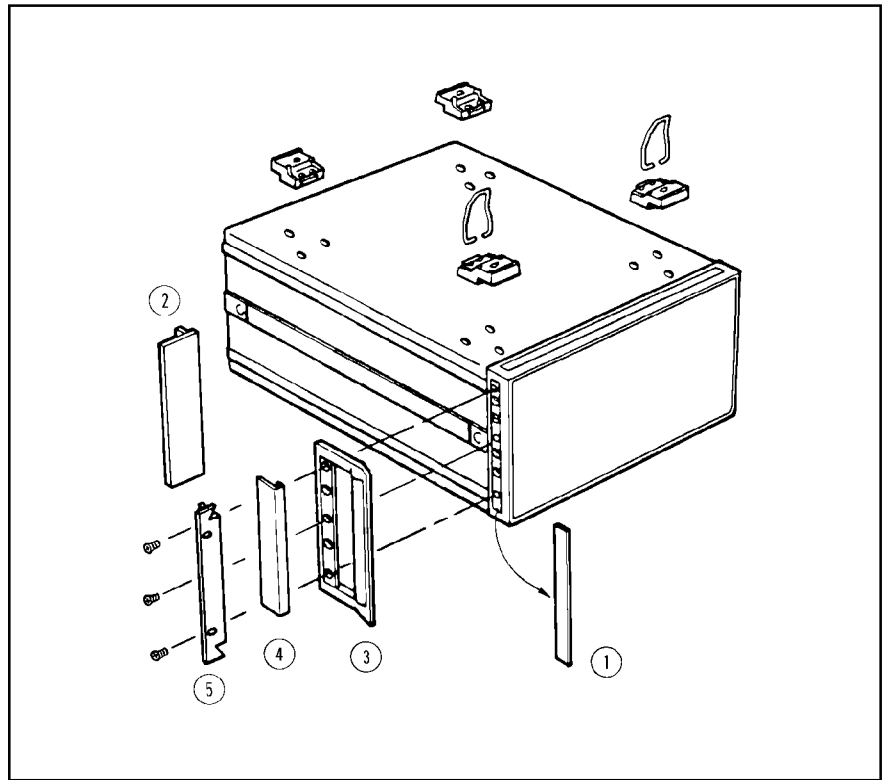

Figure 1-3. Rack Mount Kits Installation
The analyzer can be rack mounted and used as a component in a measurement system. Figure 1-3 shows how to rack mount the 4279A.
1. Remove the adhesive-backed trim strips ① from the left and right front sides of the 4279A. (Refer to Figure 1-3.)
2. Attach the front handles ② to the sides using the screws provided.
3. Attach the trim strips ③ to the handles.
2. Attach the rack mount flange ④ to the left and right front sides of the 4279A using the screws provided.
3. Remove all four feet ⑤ (lift bar on the inner side of the foot, and slide the foot toward the bar.)